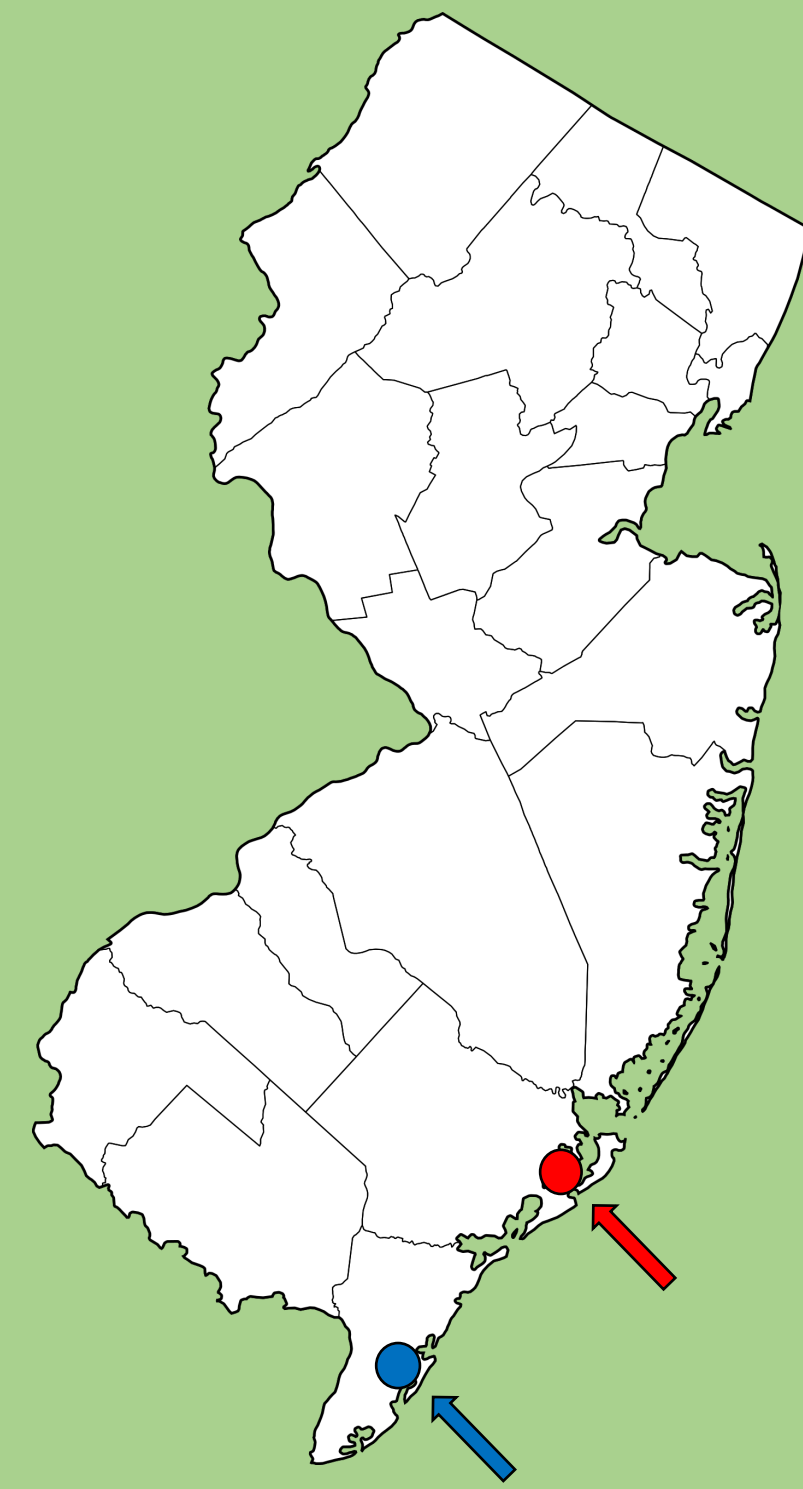

Figure 1: Locations of where the clams were harvested. Red = Little Egg Harbor (littlenecks); blue = Great Sound (middlenecks)
- Quantify the number of microplastics in clams from two locations (Fig. 1)